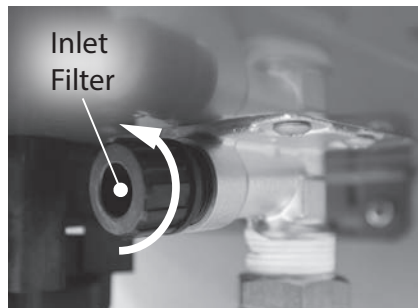

Figure 188 - Locate and remove inlet filter
- 8 Locate and remove the inlet filter as shown in Figure 188 to drain any residual water left in the system.